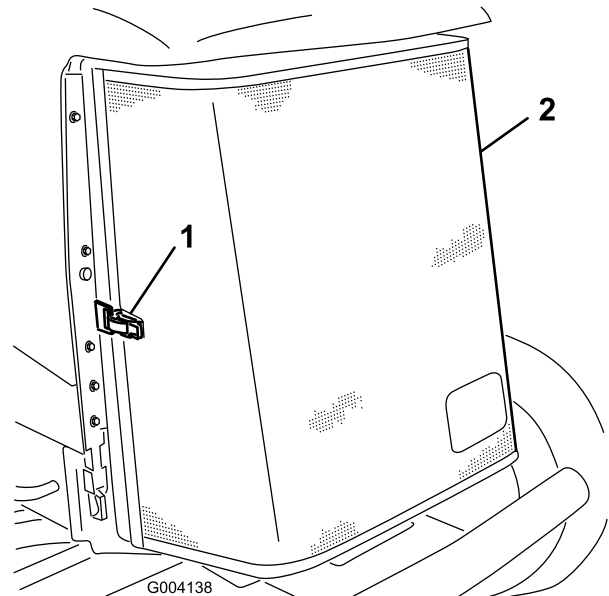

Figure 63
3. Unlatch the clamp and pivot open the rear screen (Figure 63).